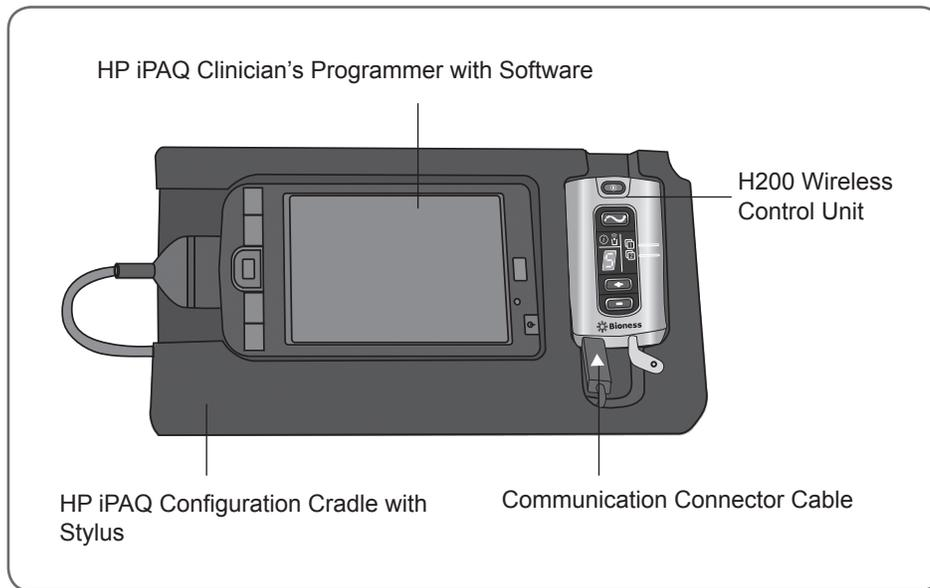

Figure 7-2: H200 Wireless Control Unit connected to the HP iPAQ Clinician's Programmer.
2. Plug the communication connector cable of the Configuration Cradle into the signal input/output port of the Control Unit. The white arrow should be facing up. See Figure 7-2.